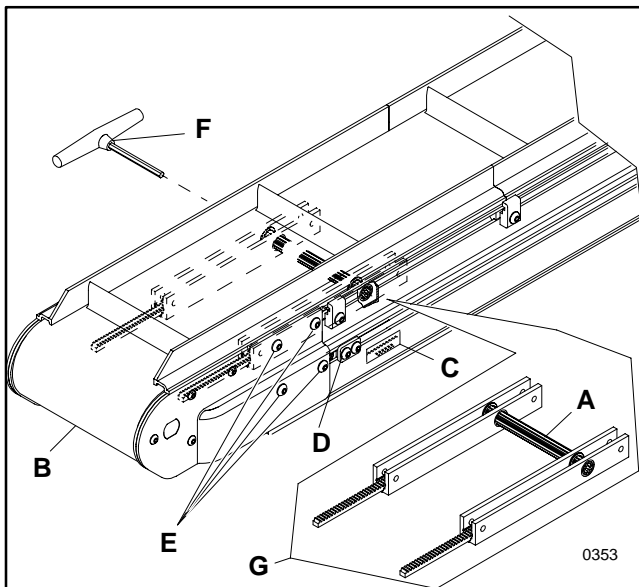
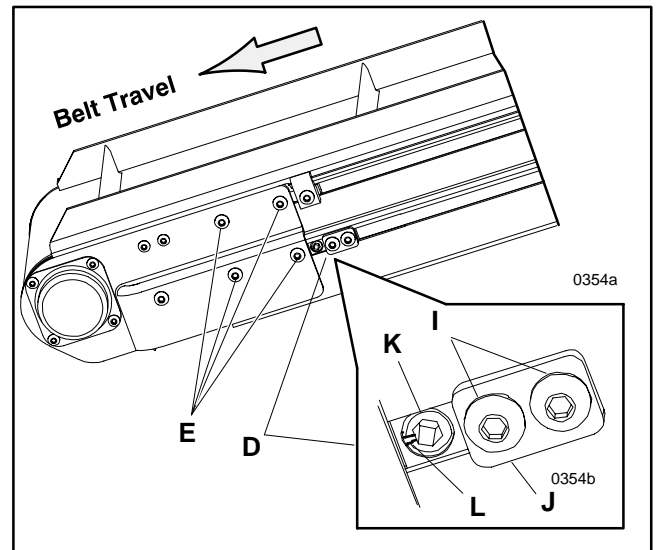

Figure 20
Figure 22
The following procedure is used to tension the conveyor belt. The conveyor uses a rack and pinion assembly (G of Figure 20) to take up conveyor belt slack and achieve proper conveyor belt operating tension. To adjust the belt tension:
1. Loosen (but do not remove) the two cam clamping plate screws (I of Figure 22) on both sides of the conveyor discharge.
2. Slide both belt tracking cam assemblies (D) as far as they can be moved toward the end of the conveyor.
3. The belt tracking cam (K) must be set to the low point at the point of contact as illustrated. The slot (L), in the
4. Tighten the two (2) belt tracking cam retaining plate screws (I), on both sides of the conveyor.
5. **Only loosen the four tail cover plate screws (E) on the side of the conveyor that the belt is tracking toward.**
6. Use the 5 mm key wrench (F of Figure 20) to slowly rotate the belt tracking cam (K of Figure 22) in small increments in either direction to cause the belt to track away from the conveyor side, until the belt tracks in the center of the conveyor. Always allow the conveyor belt to make several revolutions between adjustments.
7. While holding the belt tracking cam (K of Figure 22) in position, tighten the tail cover plate clamp screws (E) and re-check the belt tracking.